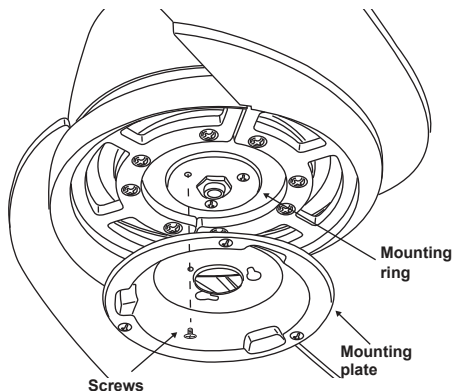

Figure 17
Step 2. Place the key holes on the mounting plate over the 2 screws previously loosened from the mounting ring, turn mounting plate until it locks in place at the narrow section of the key holes. Secure by tightening the 2 screws previously loosened and the one screw previously removed. (Fig. 17)